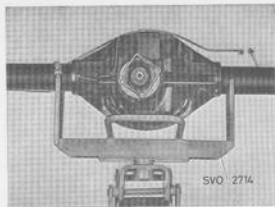

Fig. 4-182. Fixture for rear axle
1. Place the rear axle on fixture 2714, which is mounted on a garage jack, see Fig. 4-182. Move the rear axle in under the vehicle and fit on the bolts for the support arms and torque rods.